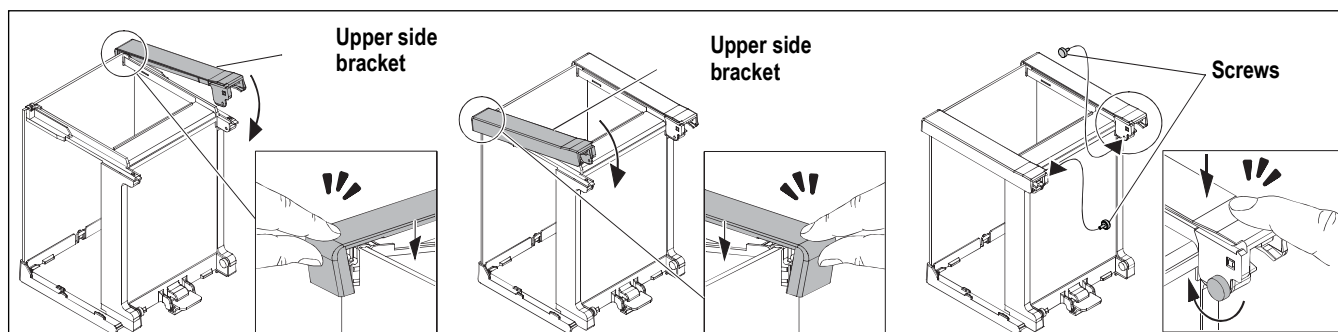

Figure 2-11. Install Upper Brackets
8. Place the upper side brackets on top of the assembly as shown in Figure 2-11 and secure with provided screws.